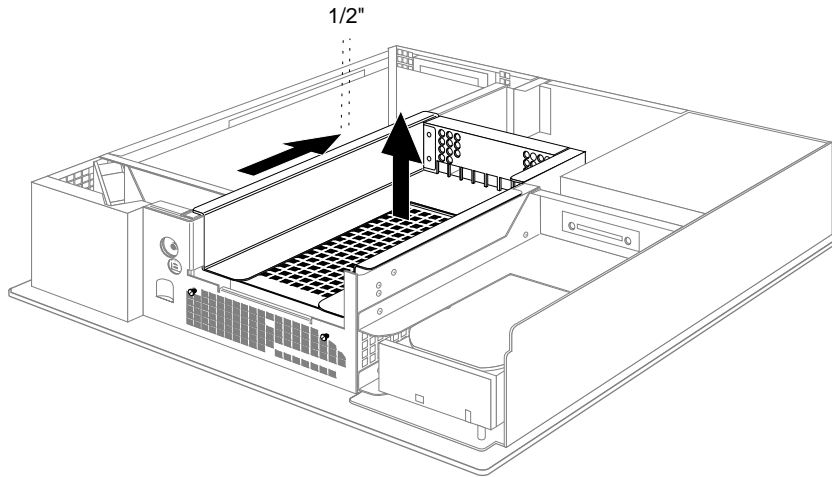

Figure 8-22 Removing the 5-1/4" Drive Tray From the Indigo² Chassis
- Push the drive tray toward the back of the system, and pull up to remove the tray, as shown in Figure 8-22.